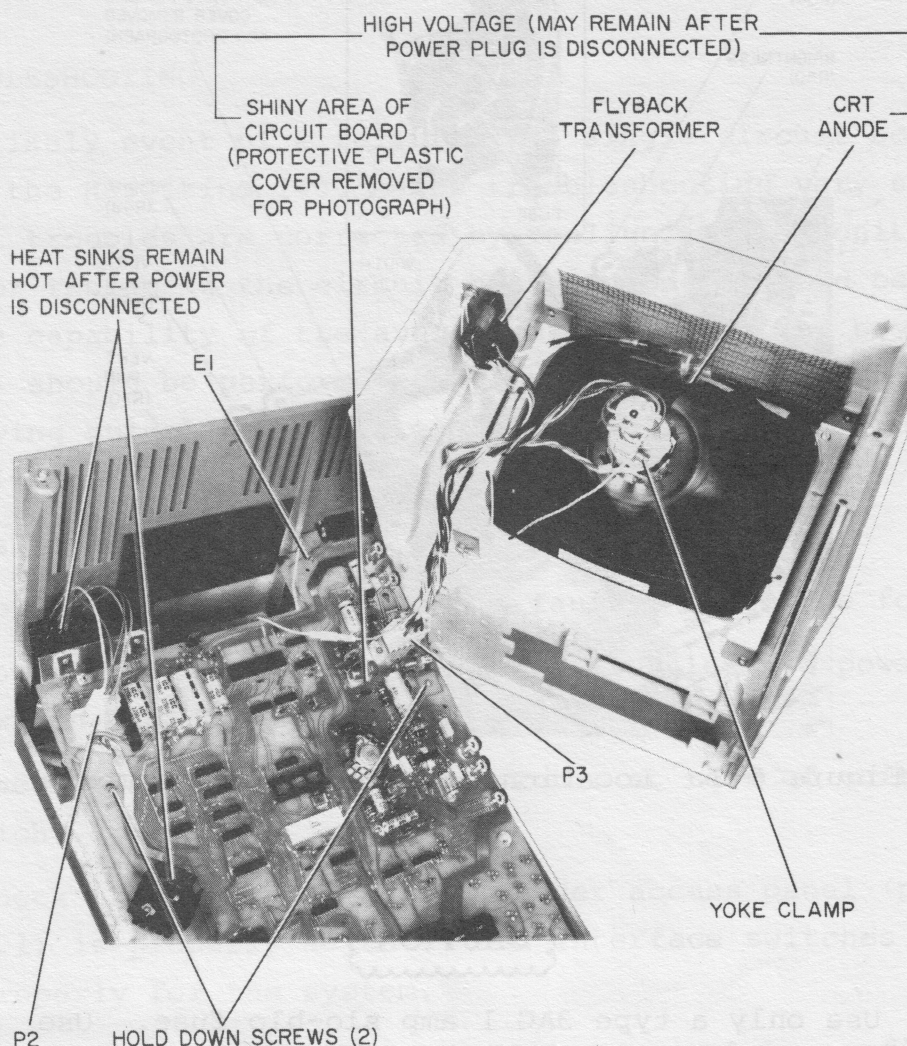

Figure 6-2. 1400 Terminal, Open, Ready for Servicing
- d. Carefully lift the cover and cathode-ray tube (crt) off the base and immediately to the right. There is enough slack in the wiring to lay the cover on its side alongside the base as shown in figure 6-2. ~~The terminal may be turned on and operated in this condition for alignment or troubleshooting purposes.~~ *The terminal cannot be turned on with the cover removed.*
- b. Loosen two screws securing circuit board to base (figure 6-2).
- (1) Note the direction and amount of tilt.
- (2) Disconnect the power plug and open the unit as described in paragraph 6.2.
- (3) Loosen the screw securing the clamp on the neck of the tube (figure 6-2).
- (4) Rotate the yoke in the direction and distance necessary to correct the tilt noted in step (1) and tighten the screws. (The display will rotate the same distance and direction as the yoke is rotated).